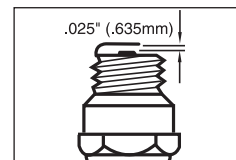

Fig. 9
1. Spark plug gap = .025" (.635mm) (Fig. 9).